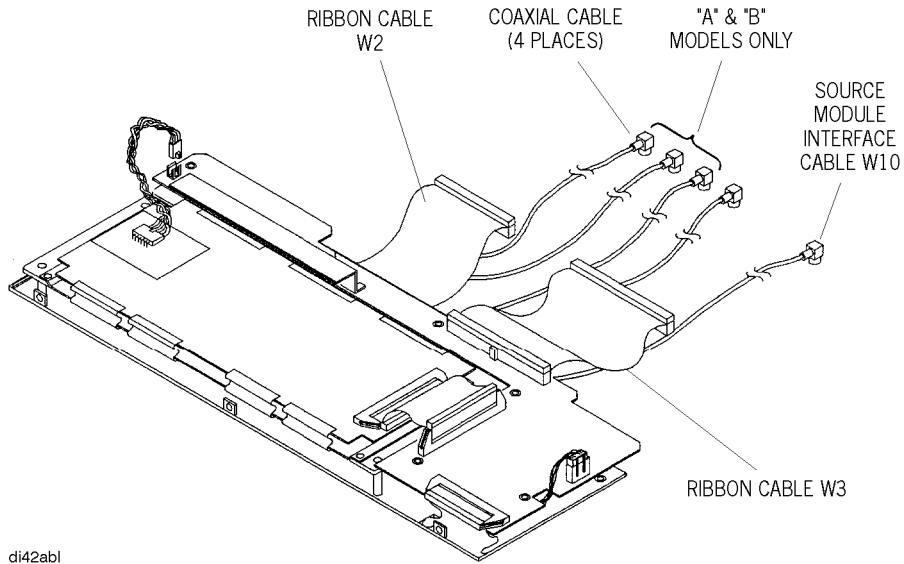

Figure 3. Front Panel BNC and Ribbon Cable Locations
10. Refer to Figure 3. From the A9, A10, and A11 assemblies, disconnect the four coaxial cables attached to the BNC connectors, and the source module interface cable (W10).